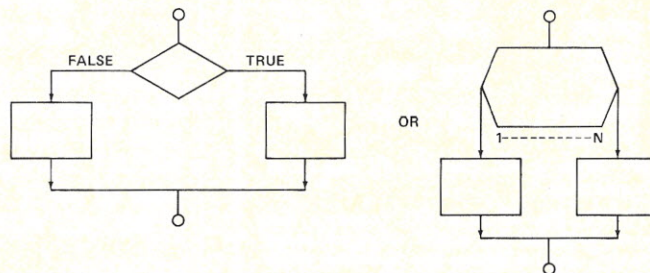

Fig. 3.
**Decision Sequence.** A decision sequence allows the result of a test to select the next executable statement. It is basically the IF-THEN-ELSE construct. While the decision is often a true or false answer it need not be. The decision could logically be a multiple decision tree. The flow of control is allowed to follow different paths within the sequence. However, when control is relinquished to the decision sequence, only one point of return from the processes within is allowed. Control is given to the decision sequence and then returned. The decision sequence is shown in Fig. 3.